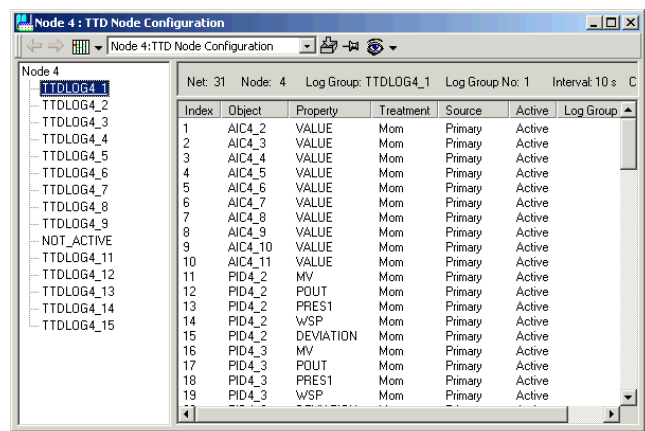

Figure 38. TTD Node Configuration: Controller View, Details About one Log Group
- one list for a selected Log Group, see Figure 38.
The second layout of the Controller View, showing the details for a selected Log Group has the following columns in the right window, see Figure 38.